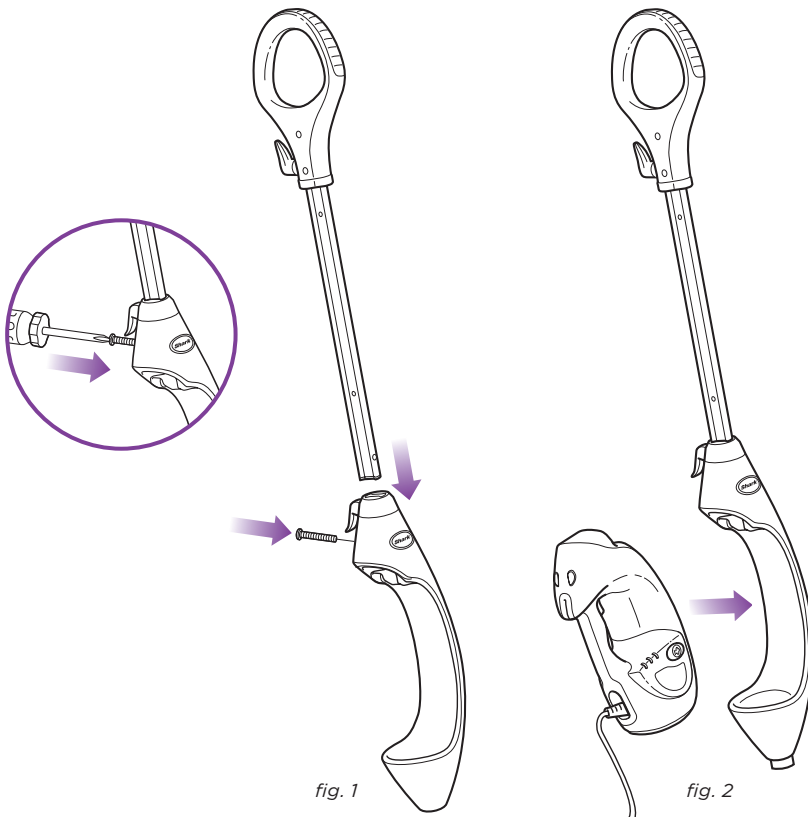

fig. 1
- 1 Insert the Mop Handle end labeled “Front” into the Steam Mop Housing. Make sure it is inserted past the line printed on the pole. Secure the assembled handle and pole by using the large screw and a Phillips or a flat head screw driver (screwdriver not included). (**fig. 1**)